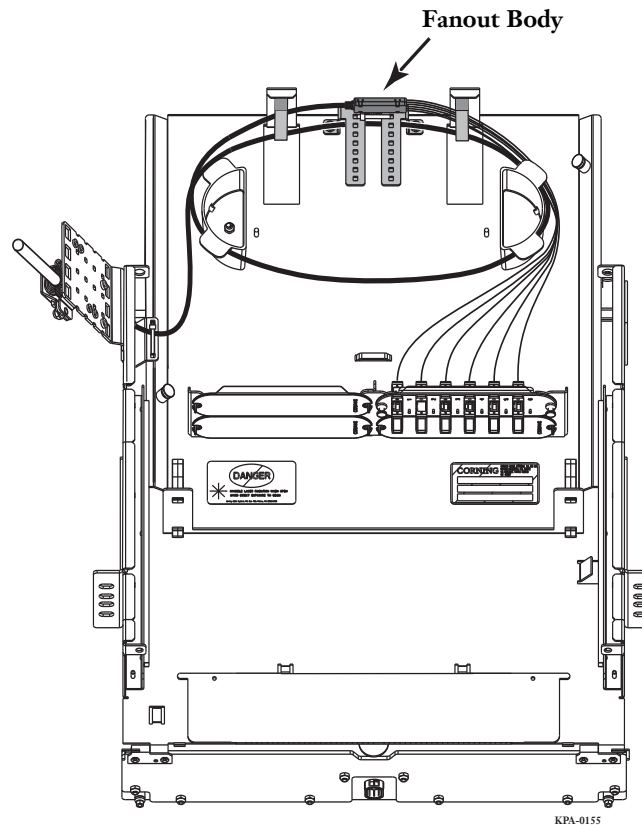

Figure 10 — Routing Fibers from Fanouts
- Step 4:** Slide the drawer back completely and loop the buffer tube under the fanout bracket and around the radius control guides. Slide the BTF truck body into the fanout bracket. Install a cable tie to secure the fanout body (Figure 10).